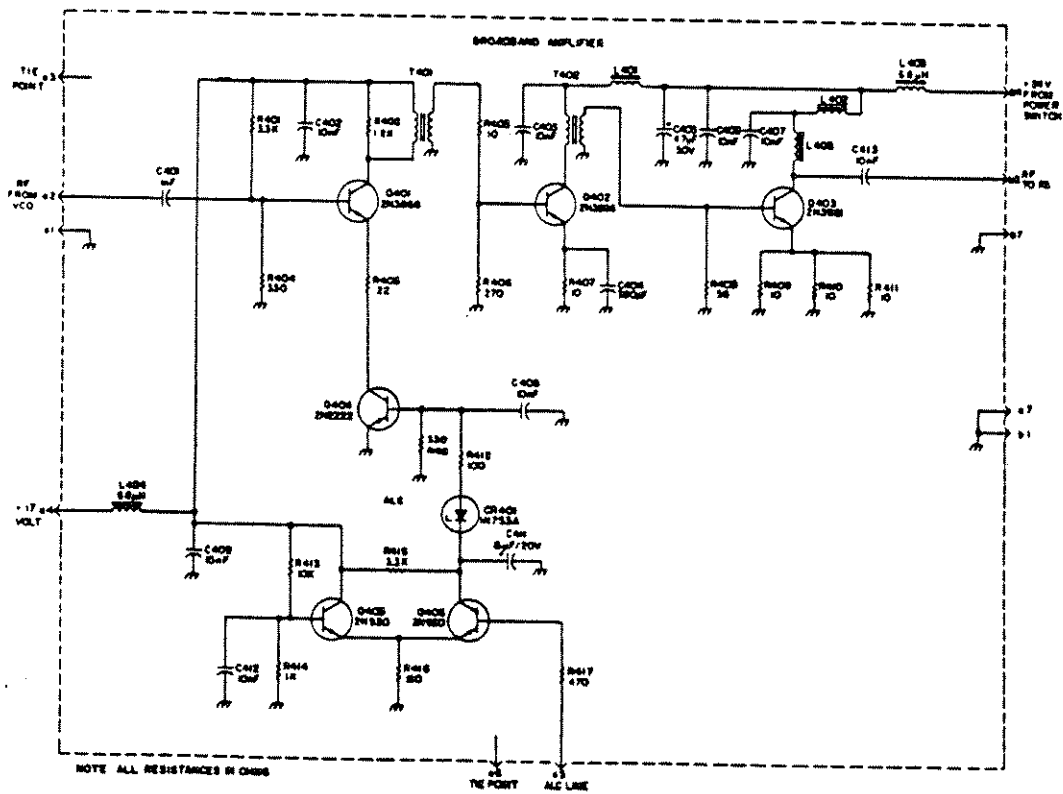

Figure 3-14. Broadband Amplifier Unit A400, Schematic Diagram
(h) **Broadband Amplifier (BA) Unit** (Fig. 3-14) – This unit forms part of the broadband amplifying chain which amplifies the VCO signal up to 30 W. The unit consists of a three-stage broadband amplifier with variable amplification, and a dc voltage amplifier. The circuit is incorporated in a three-module plug-in unit.